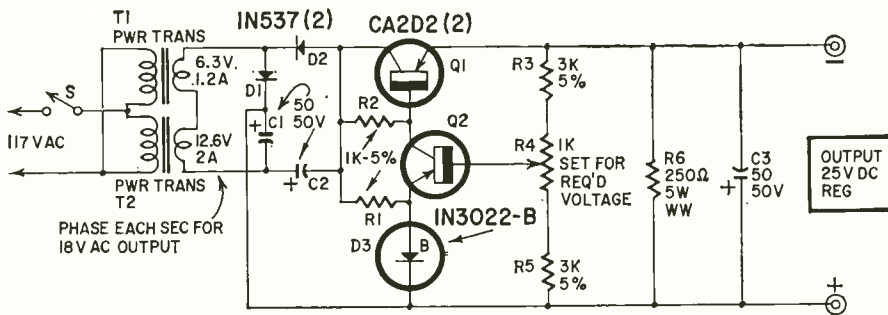

Fig. 3—Recommended regulated power supply for the amplifier.
The recommended power supply shown in Fig. 3 meets all necessary requirements. Regulation is held to 0.5% over a load current variation of 0 to 800 ma. Maximum ac ripple at maximum load current is 5 mv.
- PARTS LIST (Fig. 3)**